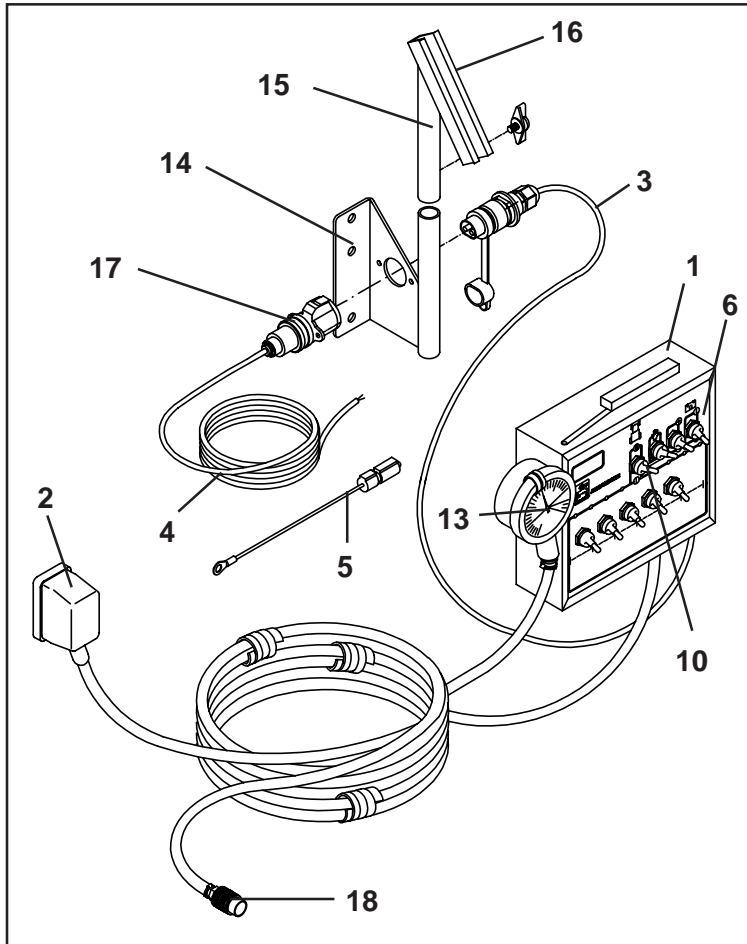

Fig. 8.4
The mounting console (Fig. 8.4/14) is fitted to the tractor cab and serves as carrier (Fig. 8.4/15) with guide brackets (Fig. 8.4/16) and battery link-up cable (Fig. 8.4/ 4). The mounting console has to be fixed on the tractor cab so that the switch box is within view and reach of the operator.
- Connect battery cable (Fig. 8.4/ 4) directly to the tractor battery (12 V) and install cable.
- Connect plug (Fig. 8.4 /5) with fuse (16 A) to the brown wire and connect to plus pole of the tractor battery.
- Fit 3-pole plug socket (Fig. 8.4/ 17) to console (Fig. 8.4/ 14).